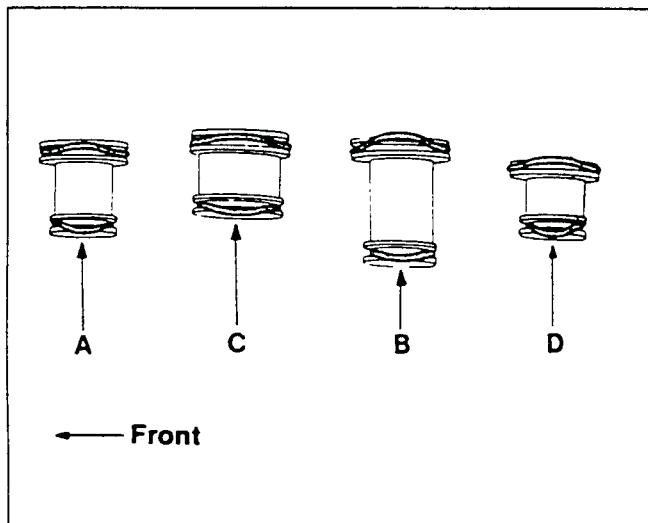

Figure 242. Accumulator Piston
## Accumulator (Figures 242 and 243)
1. Apply automatic transmission fluid (ATF) to new O-rings, then install them to the accumulator pistons (figure 242).